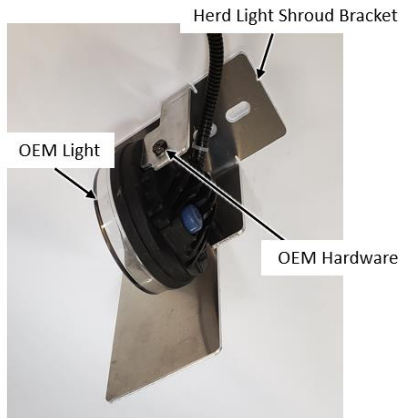

Figure 3a:
1. Mount OEM Light to the Herd Light Shroud Bracket using the OEM hardware, see Figure 3a.